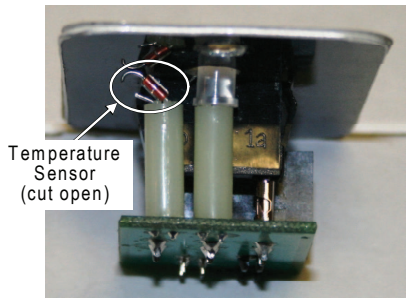

Figure 4, Sensor Cut Open
2. Use a pair of small wire cutters and clip open one side the temperature sensor (see figure 4). Ensure the cut ends are not able to touch.